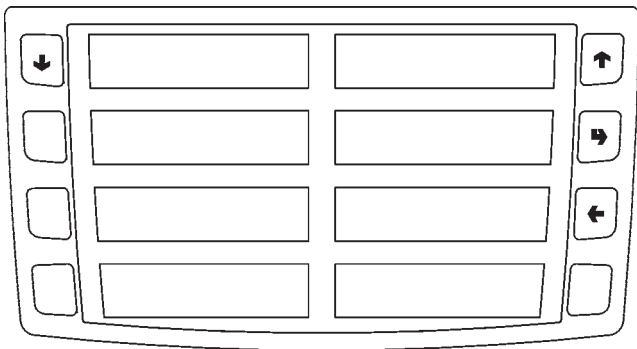

Fig. 19
- External direct selection push-button panel which takes on the following functions when in "Filler" and "Technician" mode (see Fig. 19):